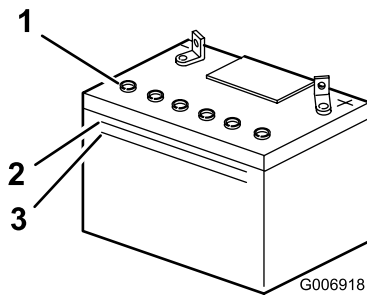

Figure 36
2. Look at the side of the battery. The electrolyte must be up to the upper line (Figure 36).
Note: do not allow the electrolyte to fall below the lower line (Figure 36).
2. Remove the filler caps (Figure 36).
3. Slowly pour distilled water into each battery cell until the level is up to the lower part of the tube (Figure 36).